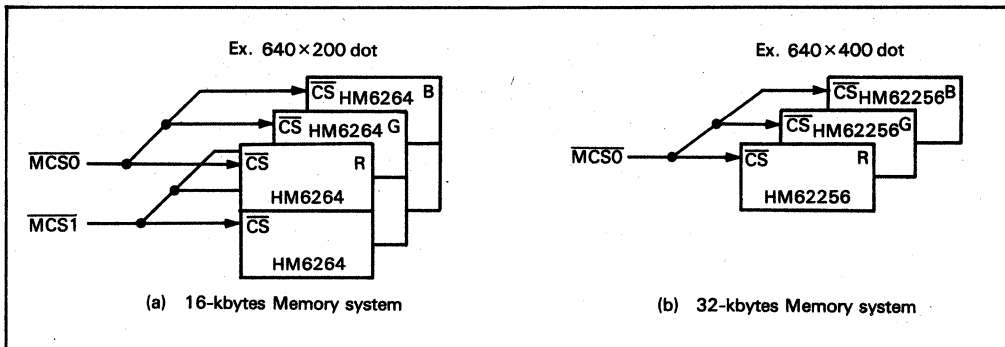

Figure 5 Relation between Display Screen Memories
For example, a screen of 640 × 200 dots requires 16-kbyte memory capacity since 80 characters × 200 lines is 16 kbytes. (8 dots compose a character.) Therefore, each plane needs two HM6264s, which have 8-kbyte memory capacity, in 8-level gray scale display modes. Connect MCS0 with one of the memories of each plane and MCS1 with the other (figure 5 (a)).
When the screen size is 640 × 400 dots, 32-kbyte memory capacity is required (figure 5 (b)). Therefore, each plane needs a HM62256, which have 32-kbyte memory capacity.
8-Color Display (Mode 9 to Mode 16): In 8-color modes 9-16, the LVIC displays 8 colors with red (R), green (G), and blue (B) filters on liquid crystal cells. The eight colors are the same as those provided by CRT display. As illustrated in figure 5, 8-color display has of two stripe modes: horizontal stripe mode and vertical stripe mode. In the former mode, the LVIC arranges R, G, B data horizontally, with horizontal filters. In the latter mode, the LVIC arranges R, G, B data vertically, with vertical filters. Three cells express a dot in both modes.